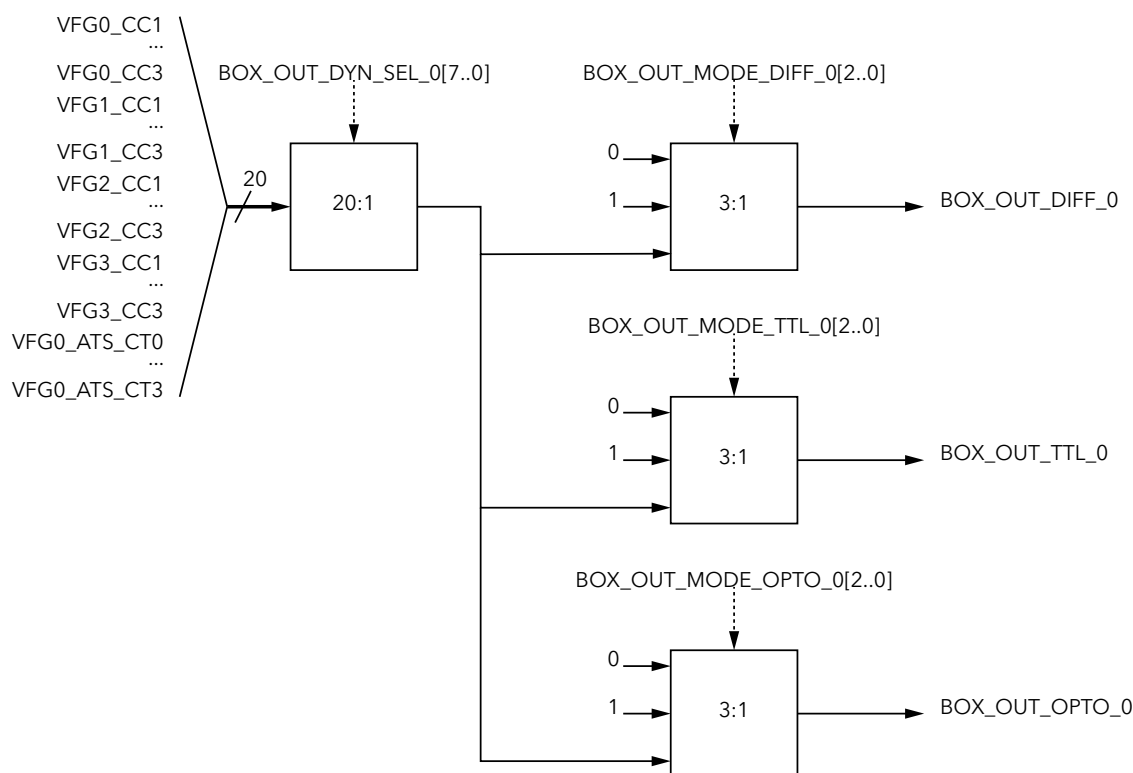

Figure 5-7 BitBox Output Signal Routing
The BitFlow BitBox has 3 banks of 12 outputs. One bank is TTL, one bank is differential and one bank is a mix of Optocoupled and Open Collector outputs. Each of the 36 outputs can be set to a static output level, or controlled by a dynamic source (waveform). Figure 5-7 shows how the outputs are controlled.
*Note: Figure 5-7 shows the choices and routing for just 3 outputs. A total of 12 of these circuits (each with their own control registers) are provided on the board in order to control 36 outputs.*